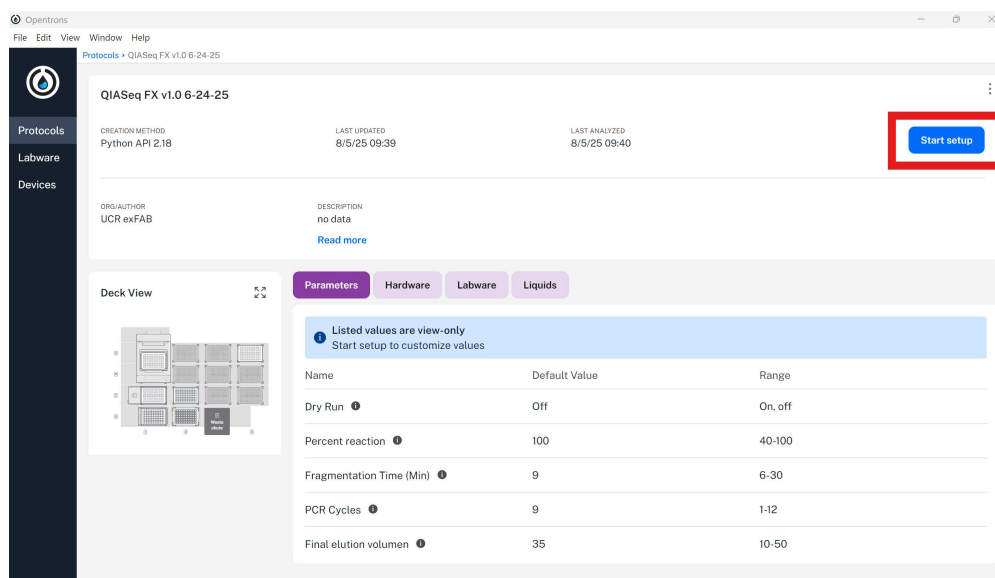

Figure 11. Opentrons control software: Start setup button outlined in red.
- Click on the previously uploaded protocol and select the "Start setup" button, as seen in Figure 11.